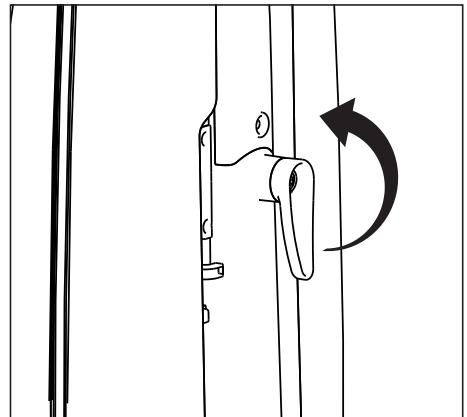

Fig. 3
- The lower cord hook rotates to allow for quick access to the power cord (Fig. 3). Turn the lower cord hook upward and you can quickly drop the power cord to the floor without unwinding it from the cord hooks.